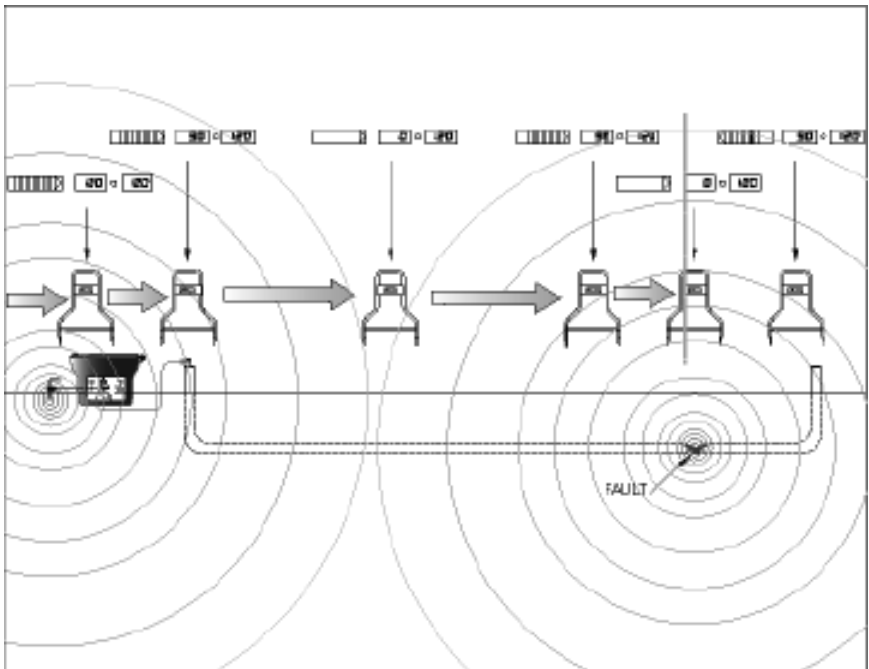

Figure 3-4 : Locating the Cable Fault with A-5000 Receiver
5. The number of bars will decrease when you move away from the synchronization location and will increase when you get closer to the targeted fault. See Figure 3-4